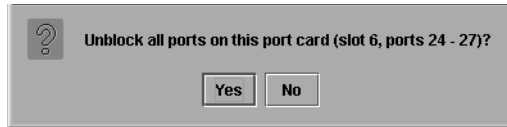

Figure 9: Unblock All Ports dialog box
5. Choose **Unblock All Ports** option. The **Unblock All Ports** dialog box displays, as shown in Figure 9.